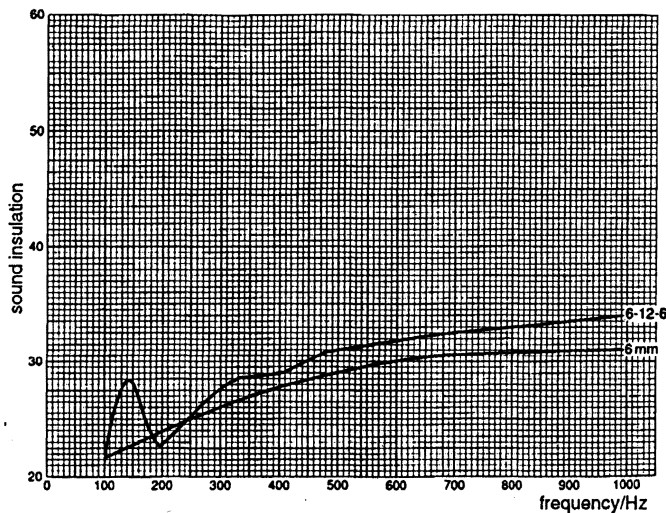

Fig. 36
(a) On Fig. 36, plot a graph to show how sound insulation varies with frequency for 6-200-6 double glazing. [3]
- (iii) Use Fig. 36 to comment on whether the salesman's claim is justified. [9]